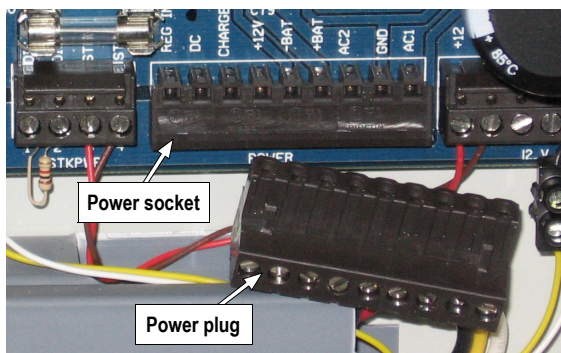

Fig. 1: Push POWER plug downward until removed.
3. Inside the panel housing, remove power from the main control panel PCB by pushing the POWER plug connector (located on the lower right of the PCB) downward until the connector is completely separated from the PCB. Do not disconnect the battery wires. See Fig. 1 below.